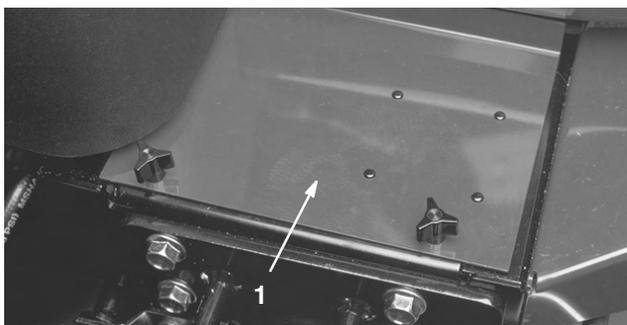

Figure 1
2. Remove the battery cover (Fig. 1).